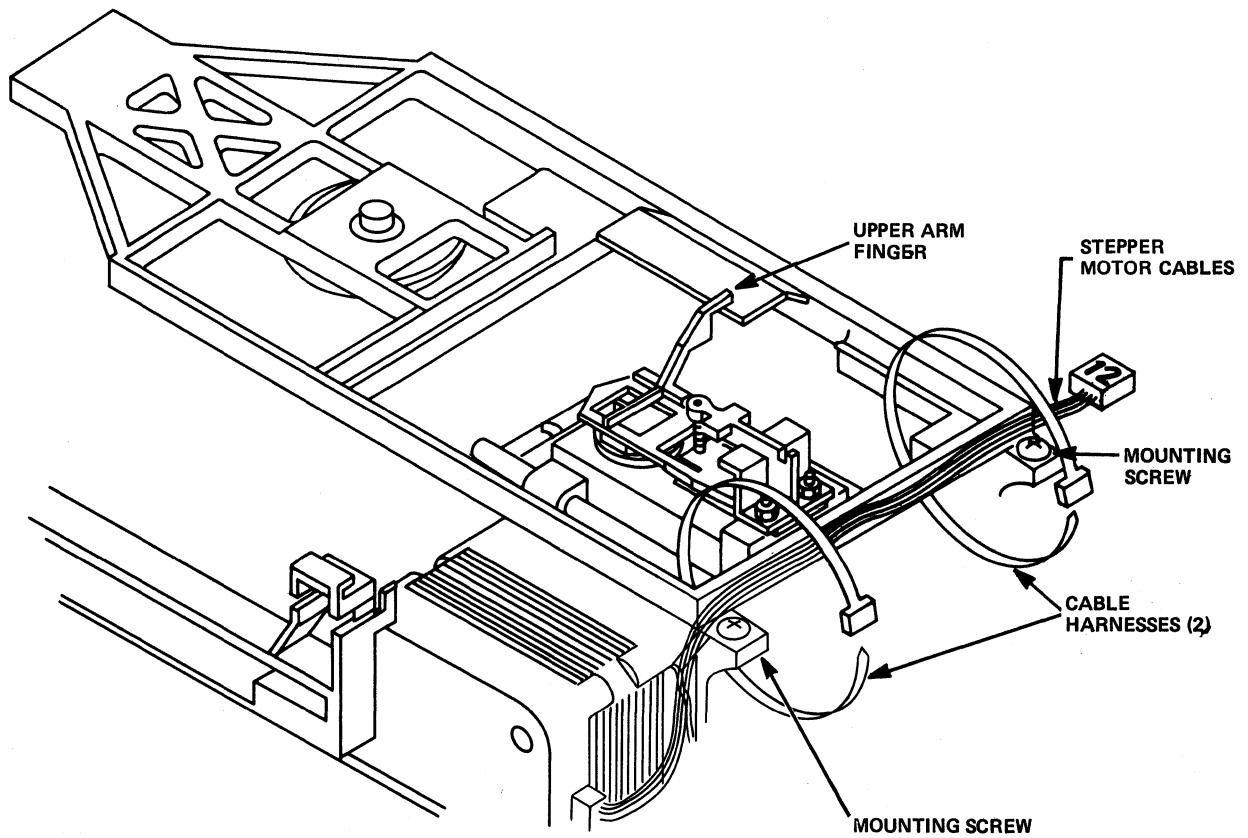

Figure 5-5
- 5.4.6** At the rear of the Cone Lever Assembly, cut the two (2) cable harnesses that hold the stepper motor cables in place (see Figure 5-5).
- 5.4.9 Slide the Cone Lever Assembly rearward to release the upper arm finger (see Figure 5-5).
- 5.4.16 Gather together and harness the stepper motor cables in two (2) places at the rear of the Cone Lever Assembly (see Figure 5-5).